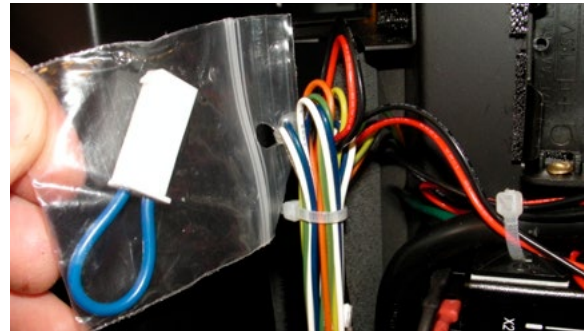

Figure 19.
2). Remove the bag containing the Jumper Cable from the wiring harness connected to the controller as shown in Figure 19.